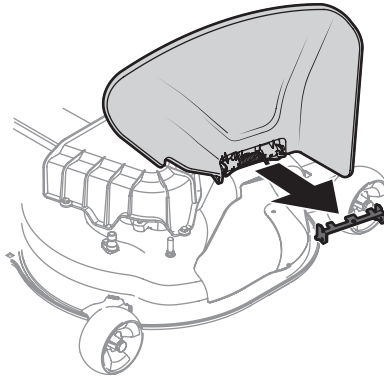

Figure 2-15
7. Holding the chute deflector fully upward, remove the shipping brace. Lower the chute deflector and discard the shipping brace. See Figure 2-15.